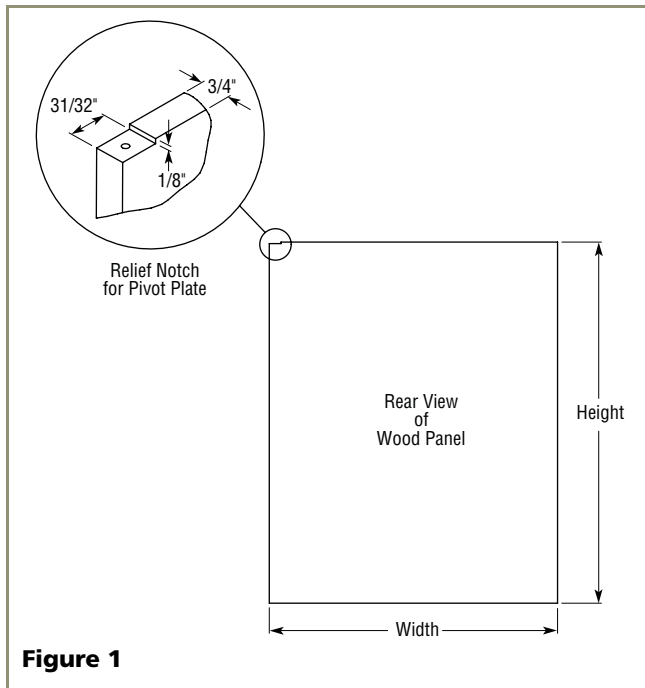
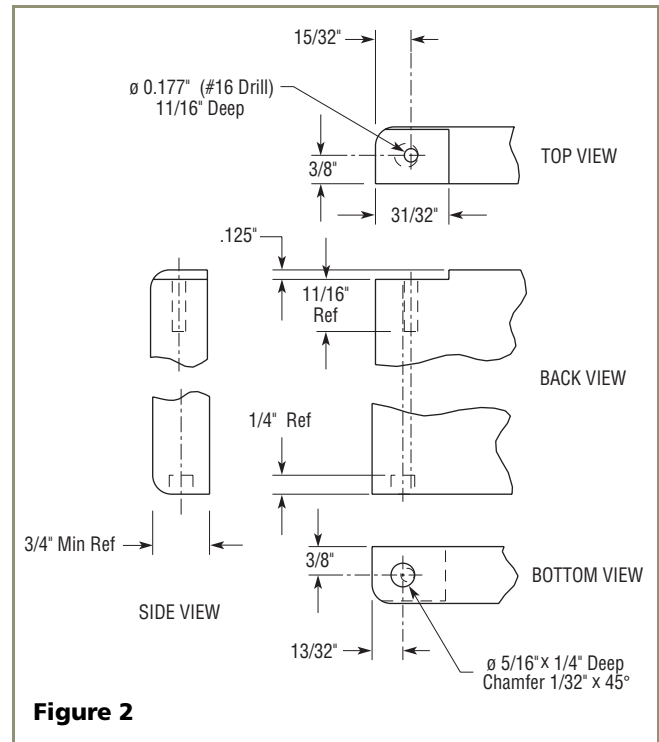

Figure 1
Figure 2
1. Cut the overlay to the following dimensions (see **Figure 1**).
2. Create a relief (**Figure 1**) for pivot plate by cutting notch in top corner of overlay panel. Refer to **Figure 2** for exact specifications.
3. Drill hole for upper door hinge (top of panel) (see **Figure 2**, Top View).
4. Drill hole for lower door hinge (see **Figure 2**, Bottom View).